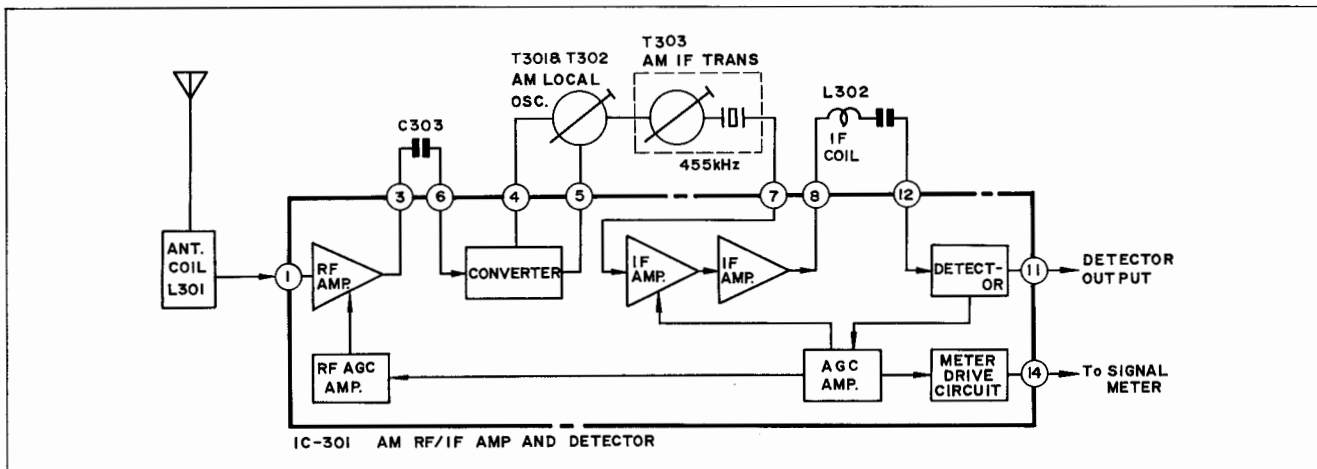

Figure 6 BLOCK DIAGRAM OF IC301
Fig. 6 is a block diagram of IC301. The coil L301 is AM ferrite bar antenna and it serves as antenna tuning circuit. Being received by the coil L301, AM broadcast signal is applied to the terminal ① of the integrated circuit IC301 to be amplified by RF amplifier and then be supplied to the converter via the capacitor C303. T301 and T302 is an oscillation coil for AM local oscillation circuit. AM broadcast signal is thus converted to 455kHz IF signal by the converter to be applied to the transformer T303 which works as intermediate frequency selection element including ceramic filter and the signal will further be amplified by 1st and 2nd IF amplifiers to be applied to the IF Coil L302. Then the signal is finally detected by the detector circuit and it will be output at the terminal ⑪. This IC301 also includes signal meter drive circuit which enables easier tuning and the output at the terminal ⑭ is connected to the signal meter (ME402).